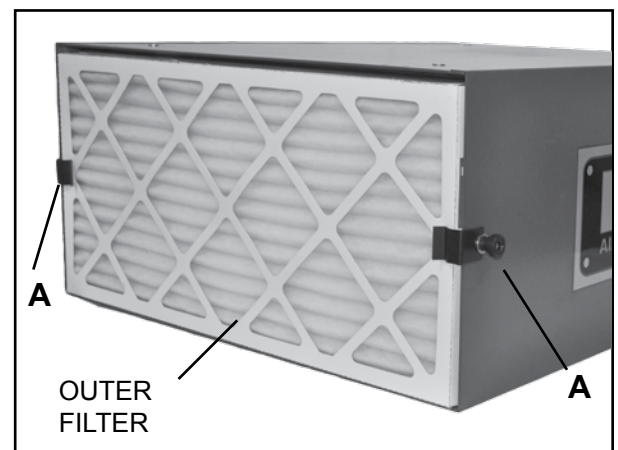

FIG. 7
1. The OUTER FILTER can be removed by disengaging the two filter clips (FIG. 7, A), then pull the filter out.